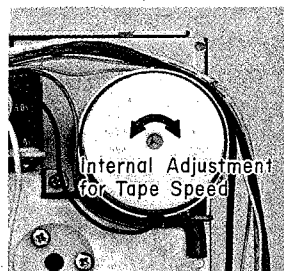

Fig. 5-9 Tape Speed Adjustment Location
4. Using a common slotted screwdriver whose handle is completely insulated from the screwdriver blade, adjust the control located at the center of the Motor as shown in Fig. 5-9 for reading of $3,000 \pm 5 \text{ Hz}$ on the frequency counter.